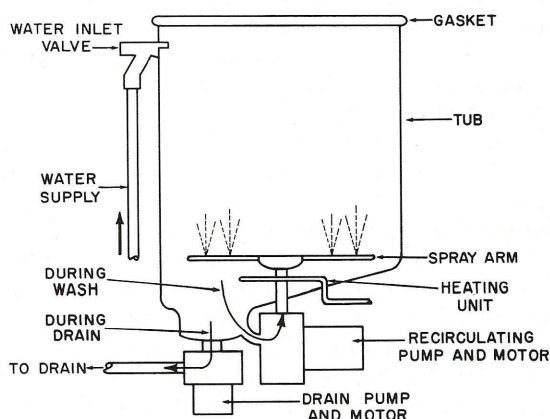

Fig. 6-5. Spray-arm circulating-pump dishwasher.
Fig. 6-5 is a diagram of a spray-arm circulating dishwasher. The main differences between this type and the impeller type are: (1) a separate motor for each of two pumps, a recirculating pump and a drain pump; and (2) the spray arm which replaces the main motor impeller.